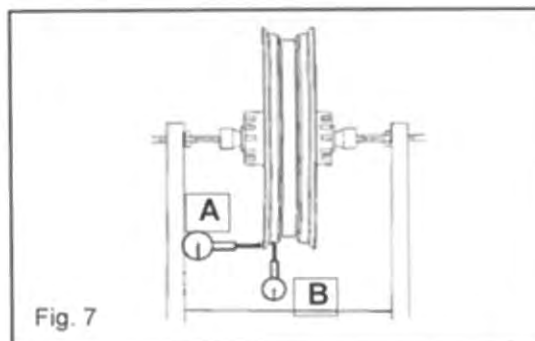

Fig. 7
6. Inspect wheel for axial runout, measured on a smooth outer edge surface of wheel as shown in Fig. 7 (A).
7. Measure wheel for radial runout (Fig. 7, B)